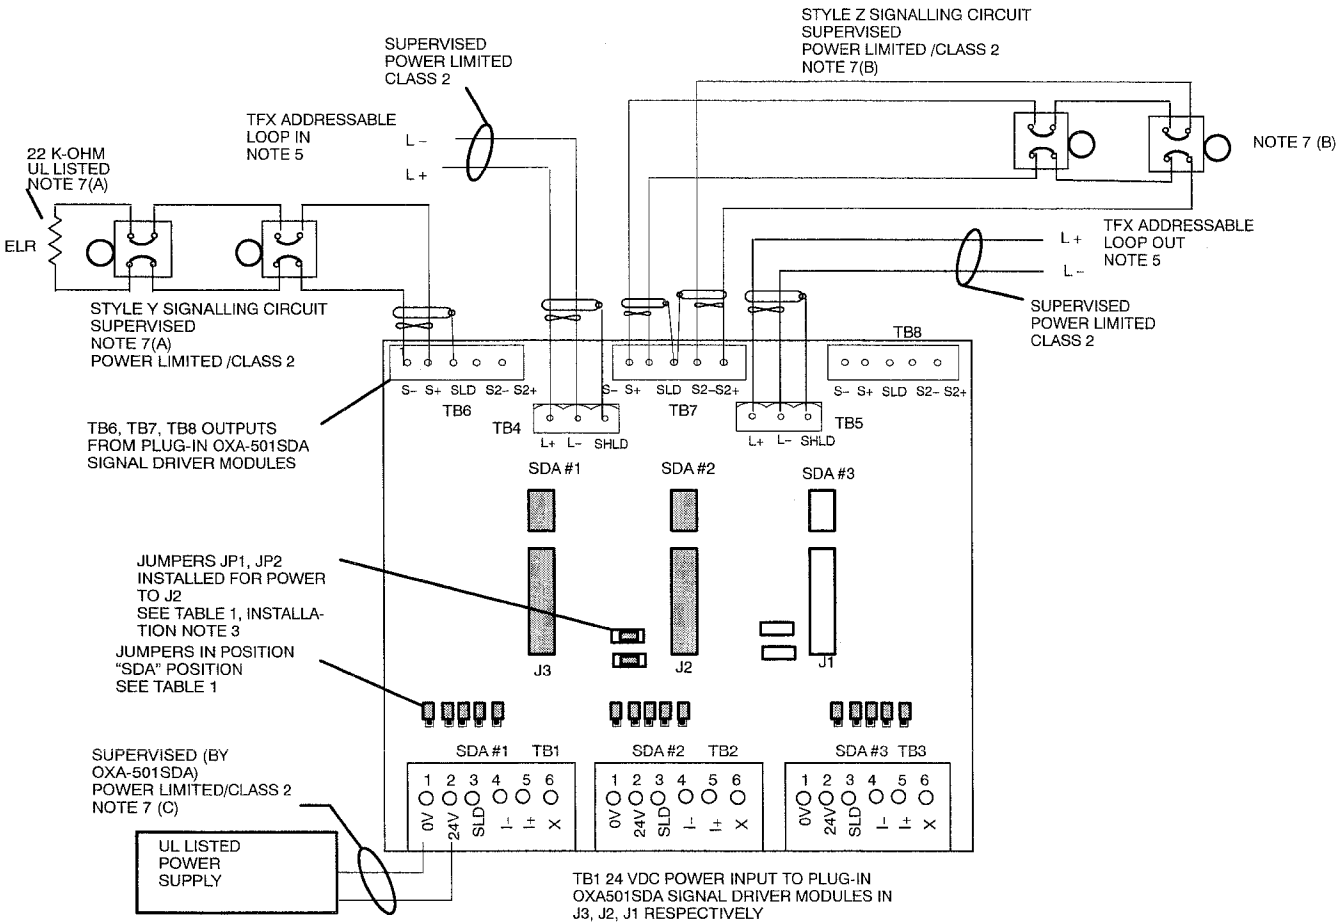

Figure 3. Typical Wiring for Signaling Circuit, OXA-501SDA Modules Installed on OXM-501 RM/SDA Motherboard.
10. Wiring to OXA-501SDA signalling circuit terminals (see Figure 3):